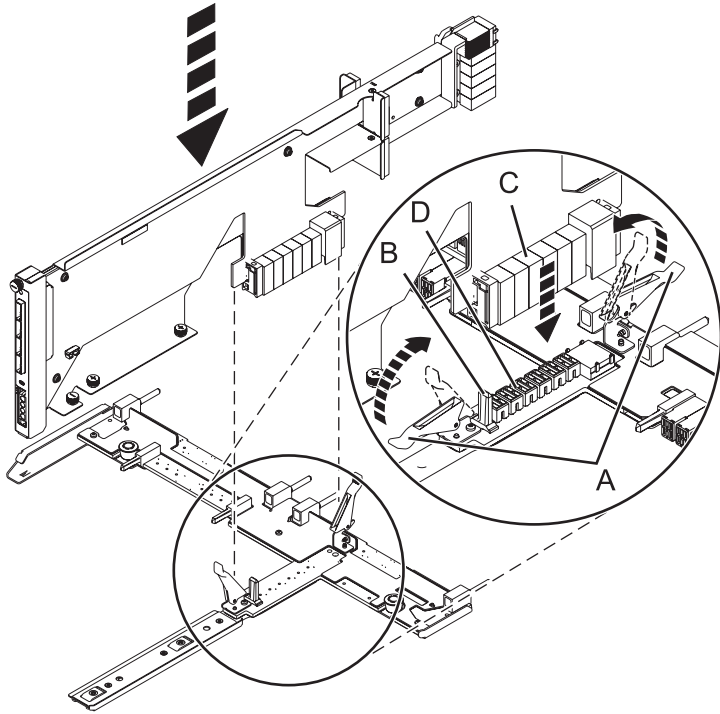

Figure 66. Installing the SAS conduit card into the midplane
- a. Place the card connector (C) on the midplane connection (D) using the guide track (B) to ensure a good connection.
- b. Lift the handle (A) to seat and secure the SAS conduit card to the midplane as shown in Figure 66 on page 85.